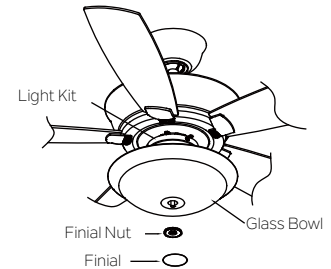

Fig. 25
Step 2. Slide the glass bowl over the threaded pipe on the light kit. Thread the finial nut onto the pipe. Attach and tighten the decorative finial. (Fig. 25)